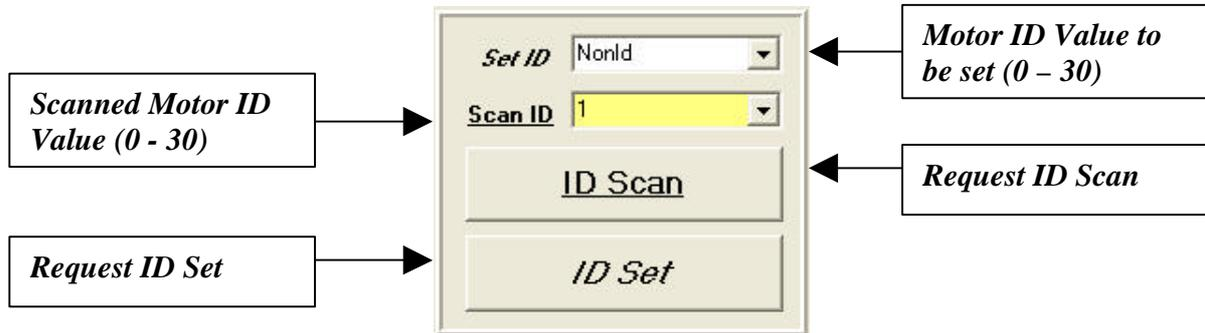

Figure 3 - ID Scan/Set Function
- Conduct an ID Scan (Refer Figure 3).